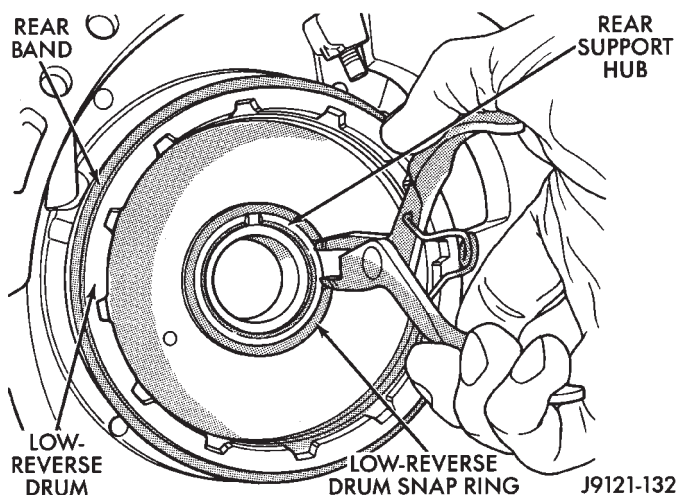

Fig. 81 Low-Reverse Drum Snap Ring
(27) Remove snap ring that secures low-reverse drum to rear support hub, however do not remove drum (Fig. 81).